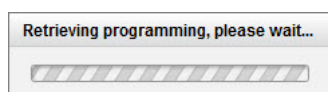

FIG. 23 Retrieving Information prompt
- Once a file has been chosen to upload, the **Update Firmware** button is now enabled. Clicking on this button will start the *Update Firmware* process (FIG. 23).